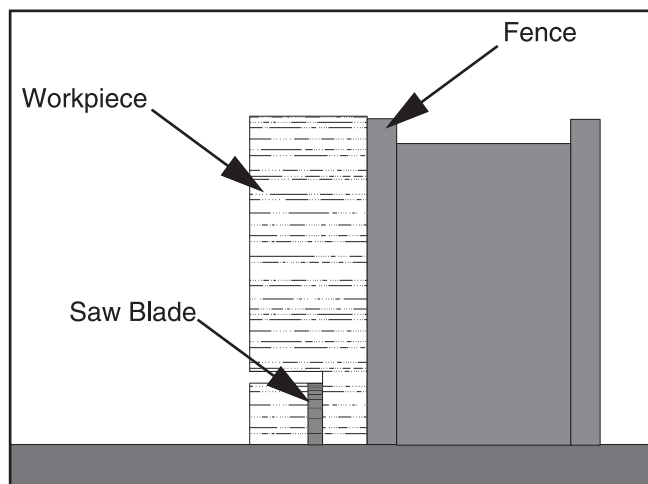

Figure 52. Second cut to create a rabbet.
9. Stand the workpiece on edge as shown in **Figure 52**.